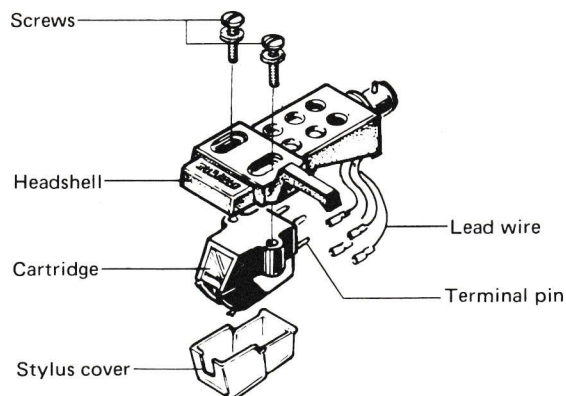

Fig. 13
1. Remove the screws that hold the accessory PC-110/II cartridge in place (Fig. 13).